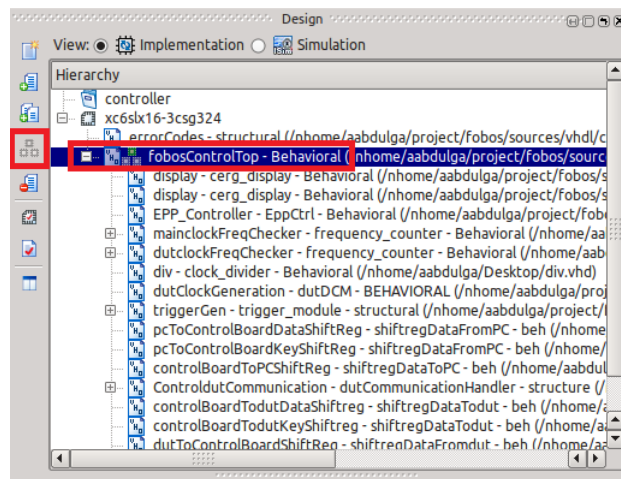

Figure 2.3: Setting Top-level Module
4. Set the `fobosControlTopLevel` module as the top-level module for this project (See Fig 2.3).